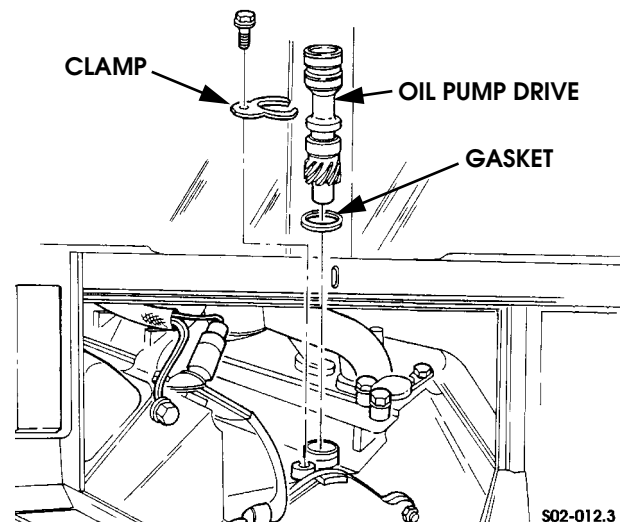

Figure 2-22: Oil Pump Drive Removal/Installation
4. Remove bolt that secures oil pump drive clamp to block (Figure 2-22).